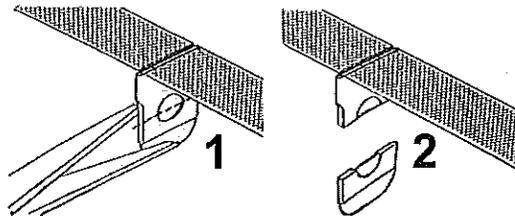

Figure 4: Tension Mesh/Sleeve Removal
3. Grasp the blue centering tab and cut the tab through the center of the punch hole (see Figure 4) ensuring that both halves of the blue tab are completely removed from the vaginal canal.